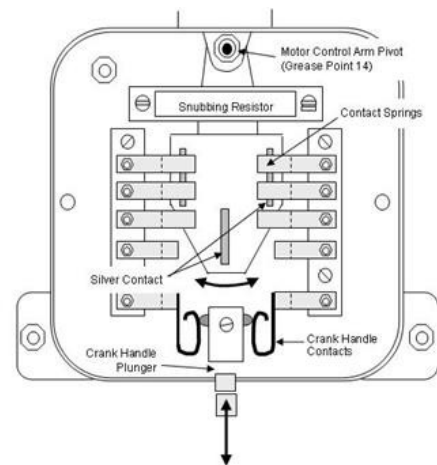

Figure 2 - Motor Control Contact Assembly
4.4 Examine the following (see Figure 2 for details):